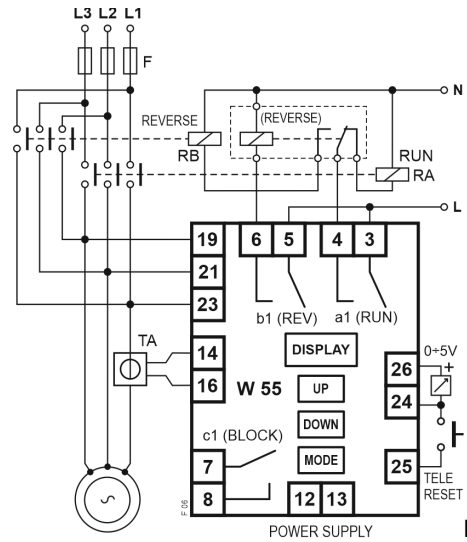

Fig. 6
**TRIFASE: IN > 5A** : con TA.. /5 (Fig. 6)
**IN > 5A** external current transformer .. /5 (Fig. 6)